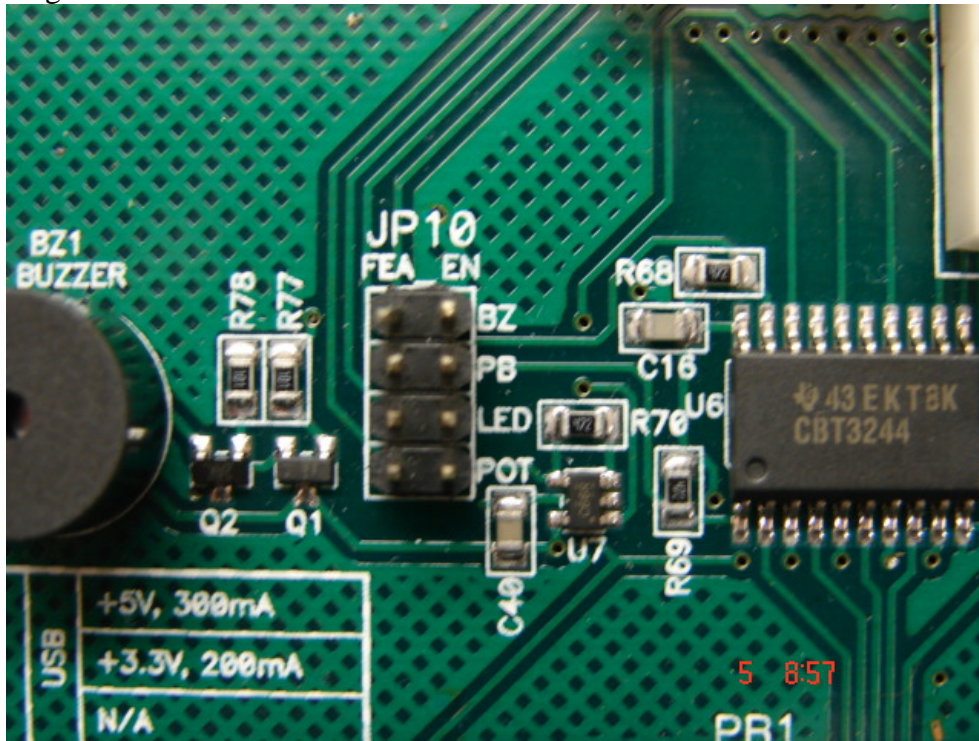

Figure 11 MCU Project Board option header FEA_EN configurations
- ◆ Make sure all jumpers on option header FEA_EN on MCU PROJECT BOARD 2 are unconnected as pictured in Figure 11.